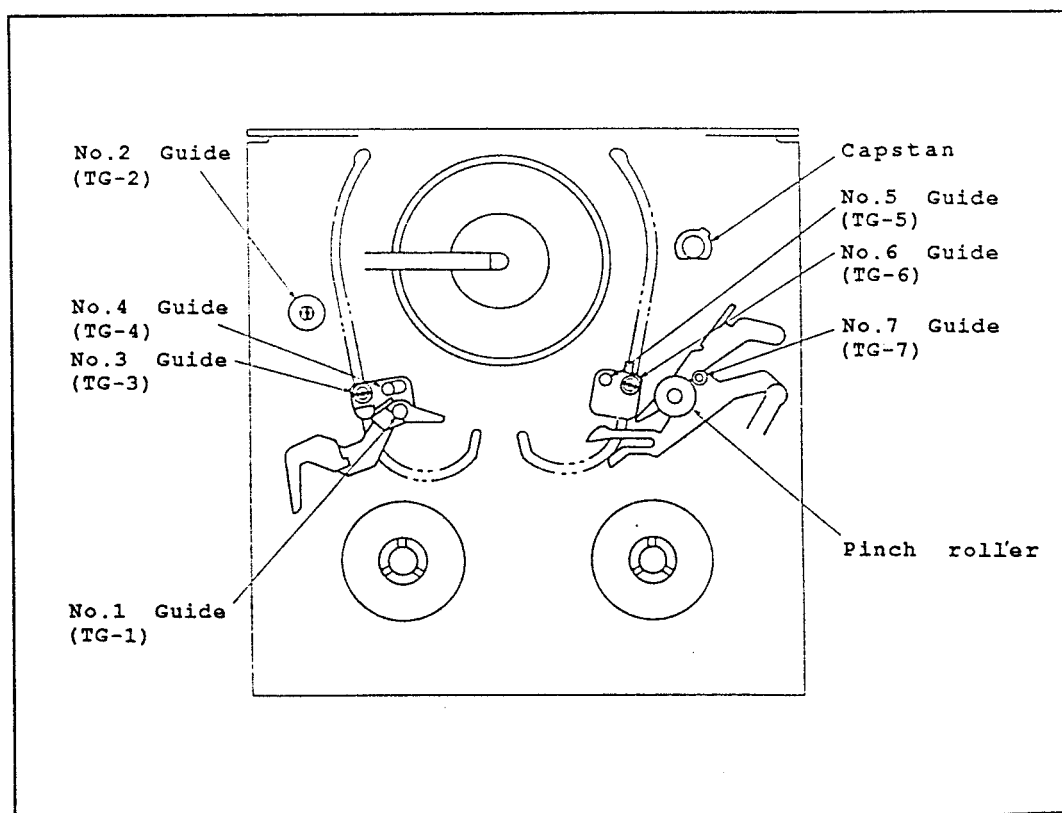

Fig.II-5
- (1) Clean the tape path (No.1-7 guides, Capstan shaft and Pinch roller) by using a lens tissue with ethyl alcohol soaked. (Fig.II-5)